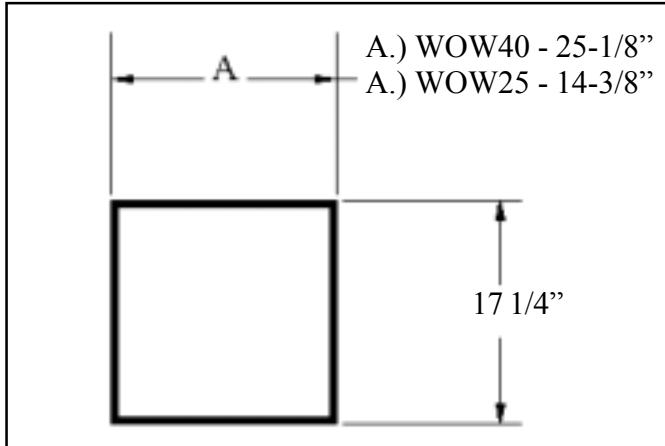

FIGURE 11
- A.) At desired height, mark hole opening for your model heater. (See Figure 11).